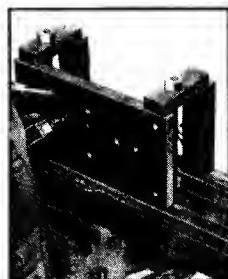

Fig. 15
7. DRILLING - LAYOUT:—By using a chuck mounted on the miller spindle and a center drill, work can be accurately prepared for drilling. (See fig. 15.)